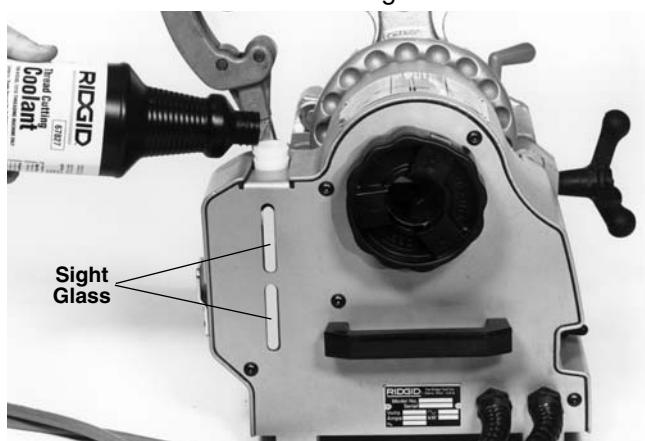

Figure 5 – Filling Coolant Reservoir
16. Check the level of RIDGID Thread Cutting Coolant by looking at the sight glass at the rear of the 1210 threading machine (*see Figure 5*). If necessary, remove the reservoir cap and fill with coolant. The reservoir holds approximately 16 ounces of coolant.